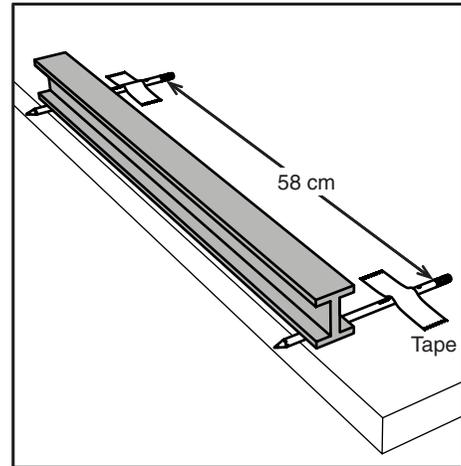

Figure 7: Experiment Set-up
In this experiment, the I-beam will be supported on two rollers (Figure 7) with a downward load force applied to the center. You will use sensors to measure maximum displacement as a function of applied force. You will repeat the measurement with the beam turned on its side.
1. Place two pencils on your bench top about 58 cm apart (Figure 7).